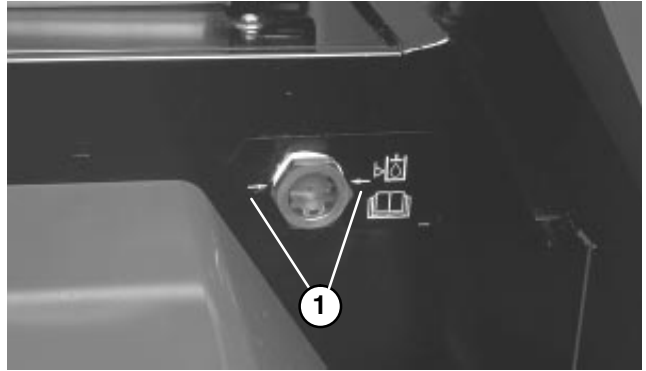
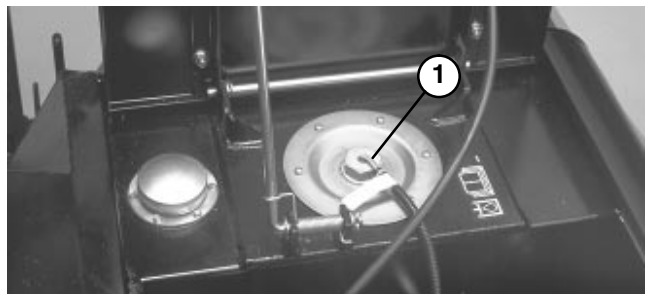

Figure 36
Figure 37
Capacity of the hydraulic reservoir is approximately 9.3 gal. (35.2 L). With machine on a level surface, hydraulic oil level should be 1/4 to 1/2 inch below arrows on sight glass, when oil is cold. Warm oil should be even with arrows on sight glass (Fig. 36). If level is low, add hydraulic oil. Refer to Hydraulic Oil Specifications.
2. Clean around reservoir cover (Fig. 37). Remove cover and add hydraulic oil until it is even with arrows on sight glass (Fig.36).
4. With cutting units up and oil warm, look into sight glass (Fig. 36). If hydraulic oil is not even with arrows, add enough to raise to proper level. Do not fill full if oil is cold.
6. Look into sight glass (Fig. 36). Hydraulic oil level should be even with arrows when oil is warm. If level is low, add hydraulic oil to the reservoir. Refer to Hydraulic Oil Specifications.